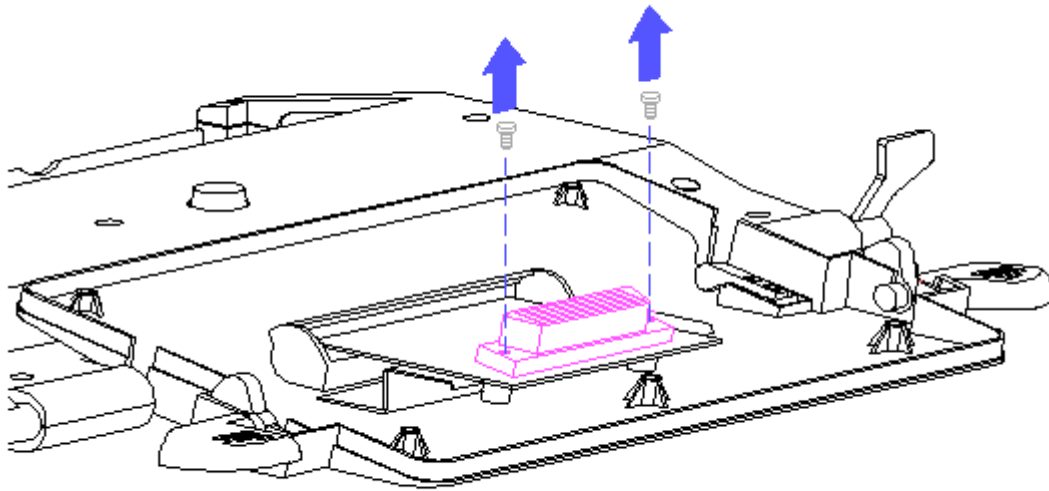

Figure 4-9. Removing the Flex Cable Connector
6. Remove the two screws securing the flex cable connector to the front pan assembly (Figure 4-9).